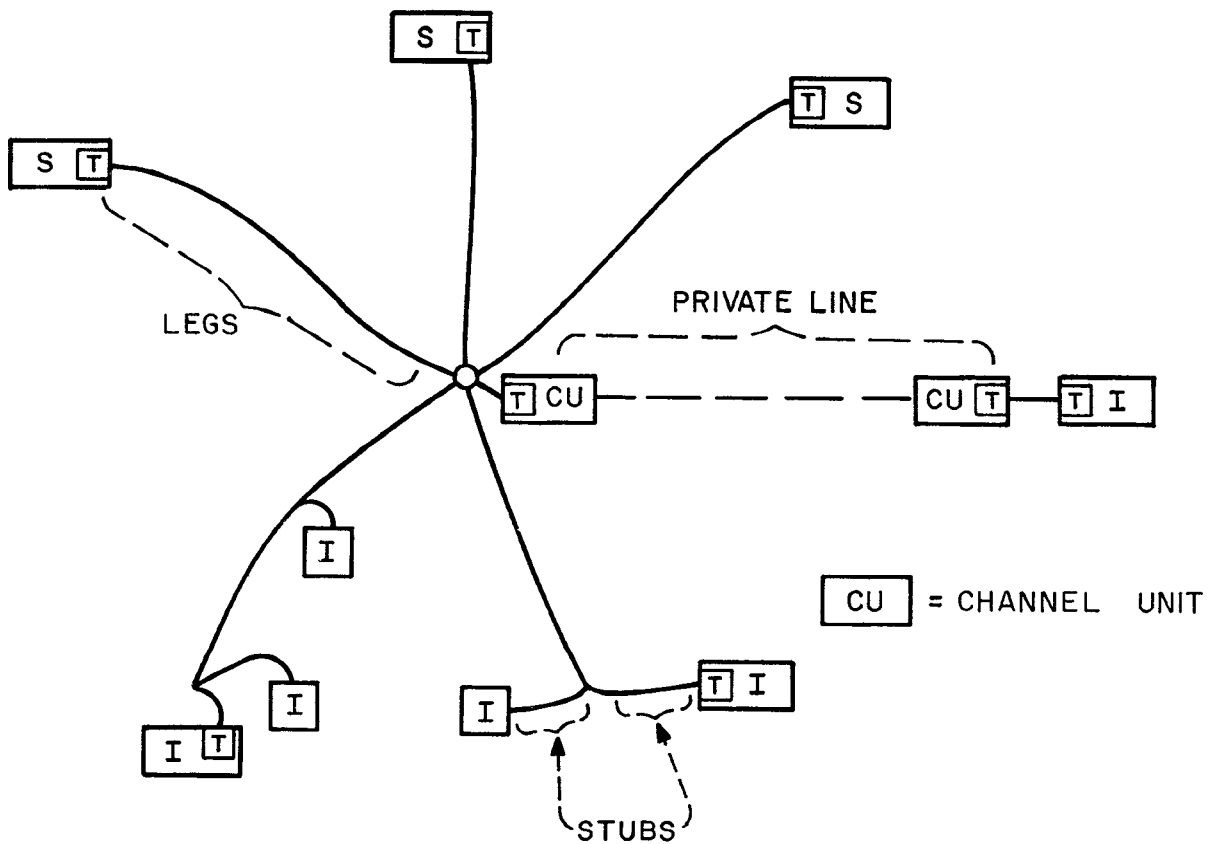

FIGURE 2-2. Inter-Assembly Wiring, Star Topology
The topology of the wiring is termed a "star" as shown in FIGURE 2-2. It consists of a number of long wire lengths, called legs, tied together at a central junction or 'hub'. Short wire lengths, called stubs, branch off from a leg to connect an assembly.
- b. Locate all assemblies in a "star" topology as shown in FIGURE 2-2.